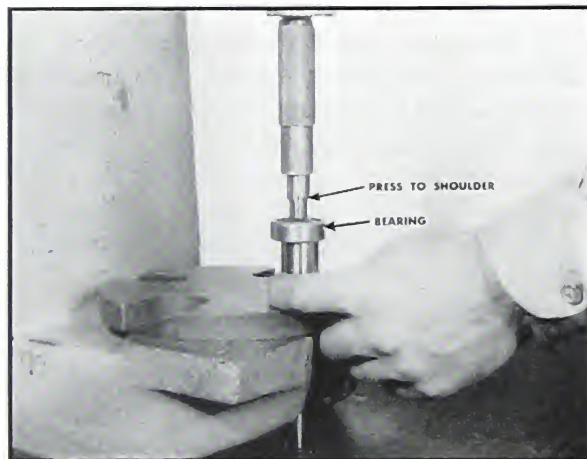

Fig. 5-215. Pressing on governor bearing
4. With extreme pressure lubricant on mating surfaces, press governor bearing in place. Fig. 5-215.